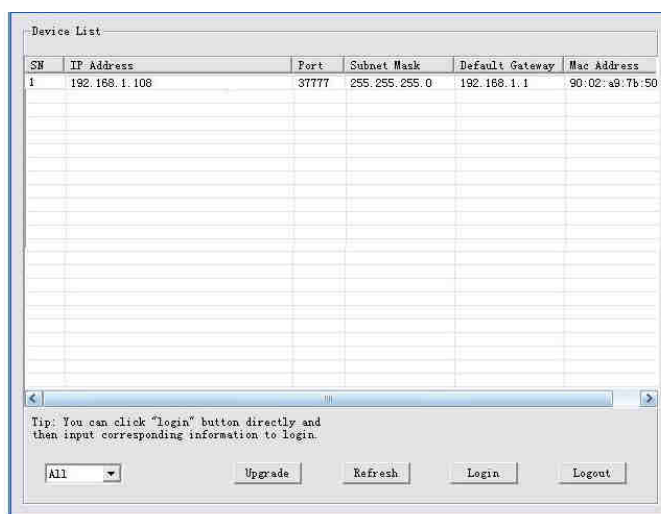

Figure 5-1
Step 1. Double click the “ConfigTools.exe”icon, you can see an interface is shown as in Figure 5-1.